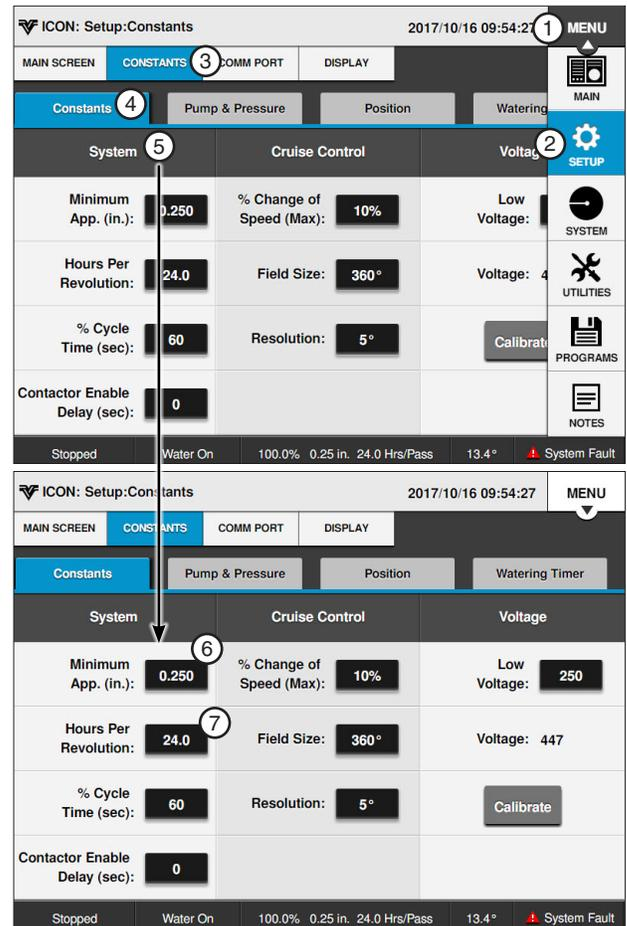

Figure 15-1 1. Menu 5. System/Cruise Control/
Push **Menu**, **Setup** and **Constants** to display the Constants, Pump & Pressure, Position and Watering Timer options. Refer to Figure 15-1.
Push **Menu**, **Setup** and **Constants** to display the Constants menu. Refer to Figure 15-1.
Minimum Application is used to set the depth of water applied at a percentage timer setting of 100 percent. Refer to Figure 15-1.
1. Push the **Menu**, **Setup**, **Constants** and **Constants** to display the System screen. Refer to Figure 15-1.
The **Hours Per Revolution** is used to set the number of hours required, at a percent timer setting of 100%, for the machine to make one complete revolution. Refer to Figure 15-1.